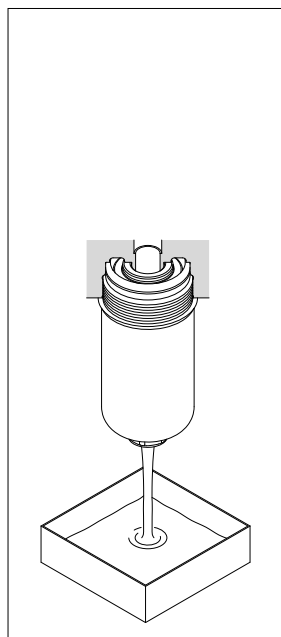

fig. 10
- (Fig. 10) Drain the operating fluid from the bottom of the bowl into the collection vessel